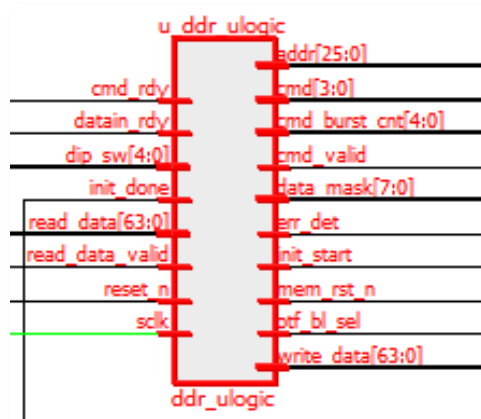

Figure 3.2. Selected Instance from the Schematic View
1. Select an instance from the schematic view as shown in Figure 3.2.